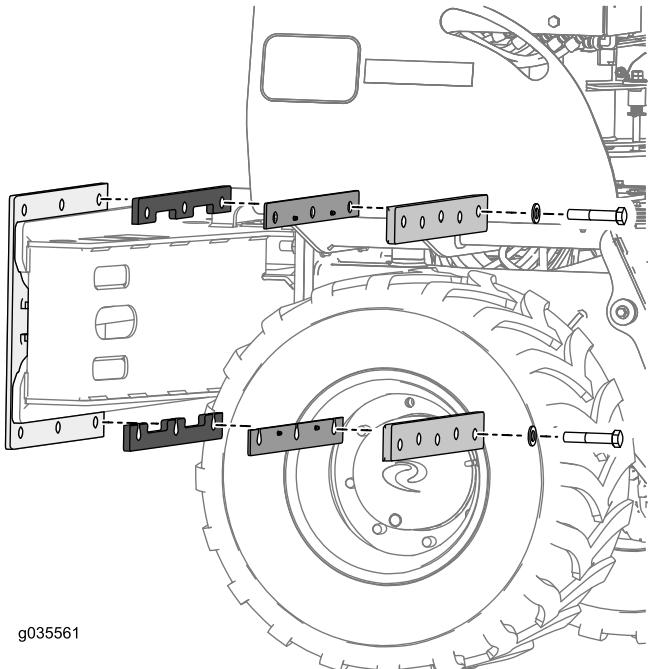

Figure 4
7. Place the upper and lower spacer plates on the slide mount plate holding them in place with the 2 bolts (3/4 x 4 inch) and 2 washers as shown in Figure 4.